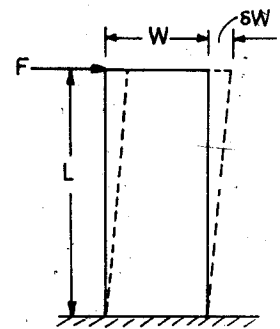

Fig. 24
64. The block shown in Fig. 24 is subjected to a shear force causing the deformation δW as shown. The shearing strain is equal to